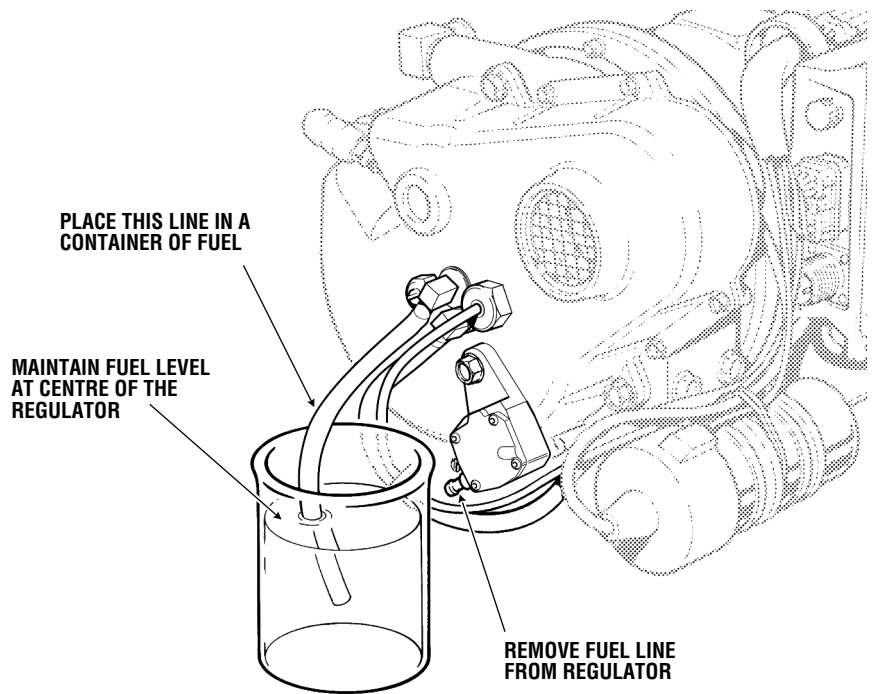

Figure 5-4 Eliminating Fuel Pump and Regulator from system.
- b) Put this end of fuel into a small container of CLEAN fuel that is about the same level as the regulator centre similarly to Figure 5-4. This will remove the vehicle fuel supply, fuel pump and regulator from the fuel delivery.